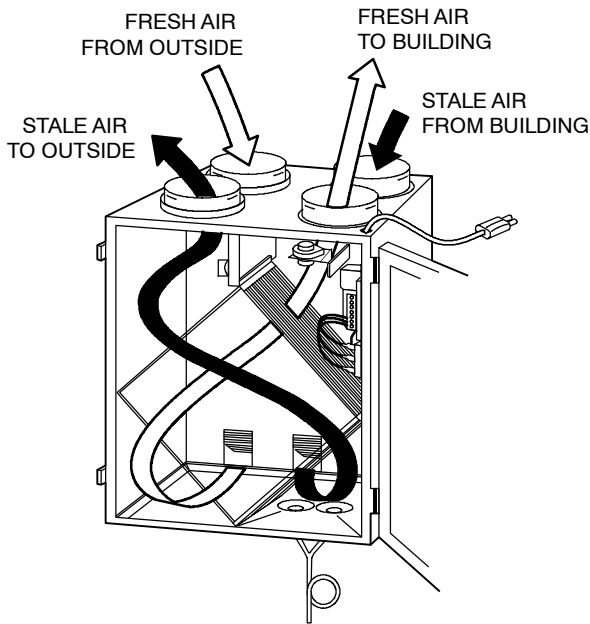

Fig. 6 - HRVCCSVU Airflow During Air Exchange
6. Heat recovery core is either a cross-flow type for compact models, or a counter-flow type for high-efficiency models. The core transfers heat between the 2 air streams. See Figures 6 and 7.